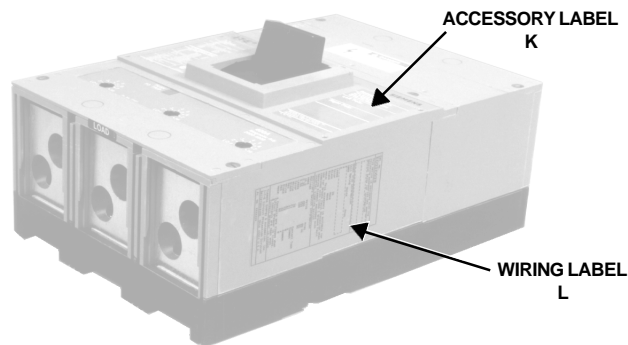

Fig. 4
7. Add two labels to device. Attach internal accessory label (K, Fig. 4) on top of device on right hand side. Make sure it is located in the proper space on existing label. Attach wiring label (L, Fig. 4) on side of device cover as shown.